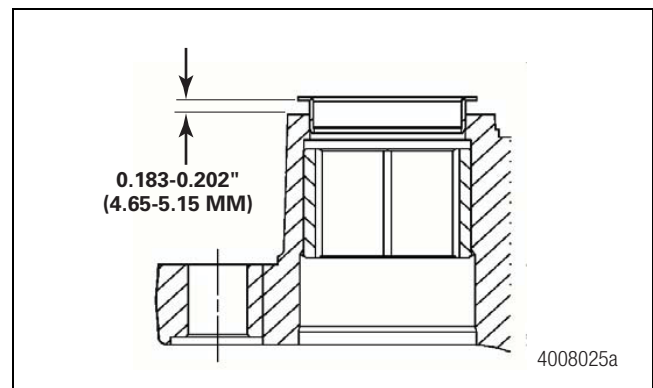

Figure 6.47
3. Use the applicable parts of Meritor tool MST1000 to draw the retainer into the slide pin bore until the flat face of the retainer is 0.183-0.202-inch (4.65-5.15 mm) from the end of the slide pin bore. Figure 6.47.